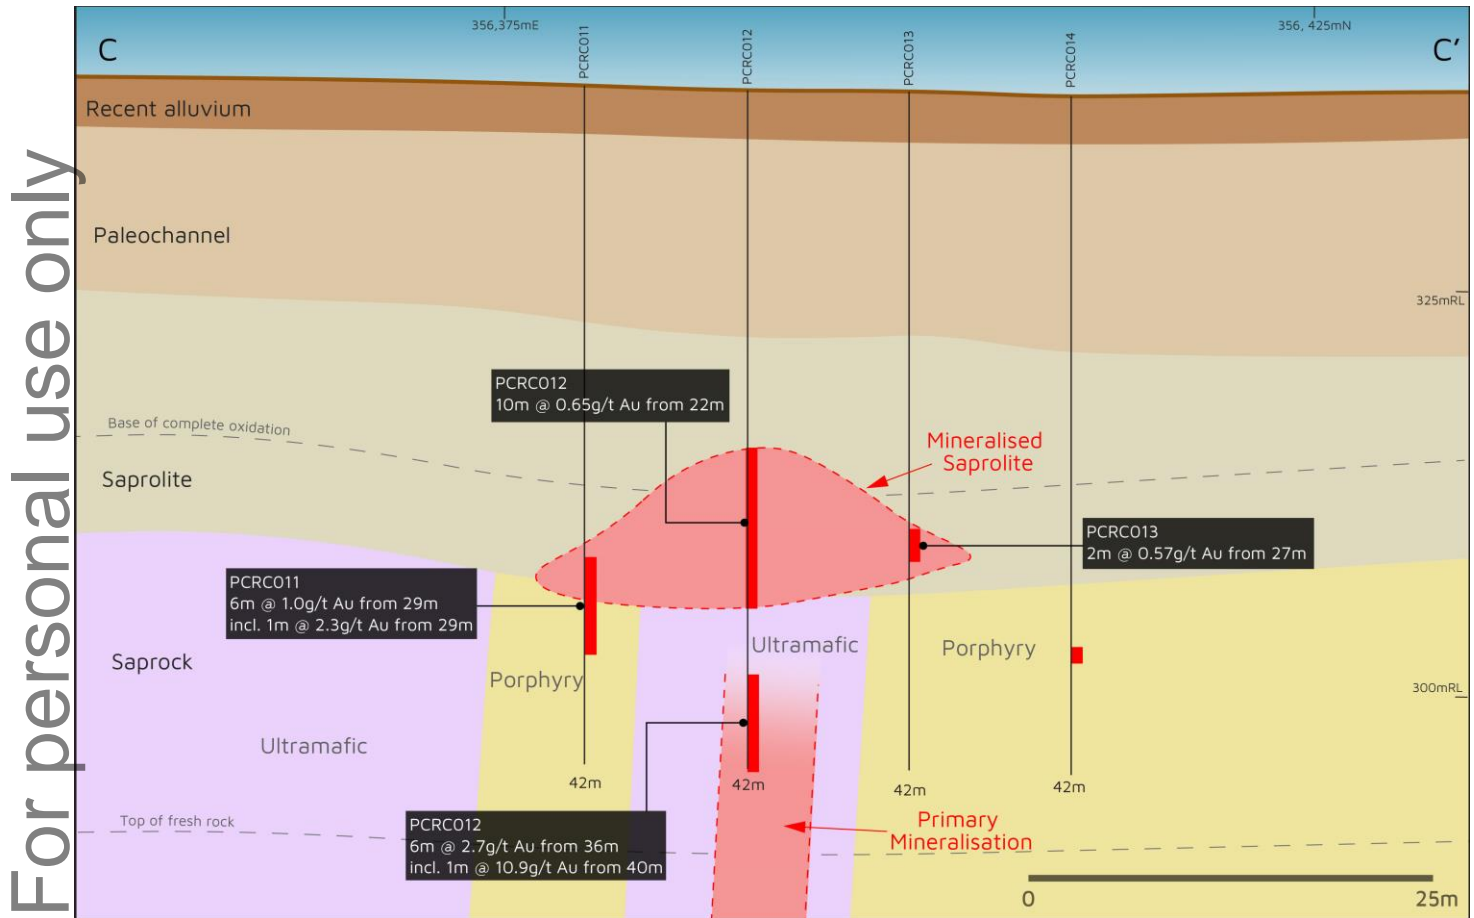

Figure 4 - Cross-section (C-C') of 8500N primary mineralisation - 6528260mN looking north.
Additional drilling to the west was extended into the underlying bedrock after field observations highlighted significant shearing and alteration. Several holes returned significant intersections of primary orogenic gold mineralisation associated with an ultramafic-felsic porphyry contact (**Figure 4**). The primary mineralisation, located beneath the paleochannel, is interpreted as the likely source of the paleochannel gold or potentially linked to another mineralised system further along strike to the north.
- **6m @ 2.7g/t Au from 36m incl. 1m @ 10.9g/t Au from 40m** (PCRC012) at end of hole (**Figure 4**)